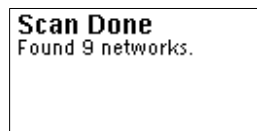
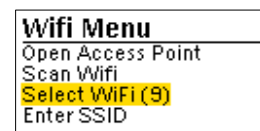

Fig 7. ENIAC Scan Complete
Fig 8. ENIAC Select network
12. After a few seconds the OLED screen will display another message saying it has done a scan (Fig 7.) and return the number of network access points it found. Press the encoder in and return back to the WiFi menu, and this time use the ‘**Select WiFi**’ command, you will note it now has the number of valid access points in brackets after it. (Fig 8.) Once the ‘Select Wifi’ command has been actioned you will see a list of the networks discovered. It is then just a matter of using the rotary encoder to select the one you want, and then press it to confirm.